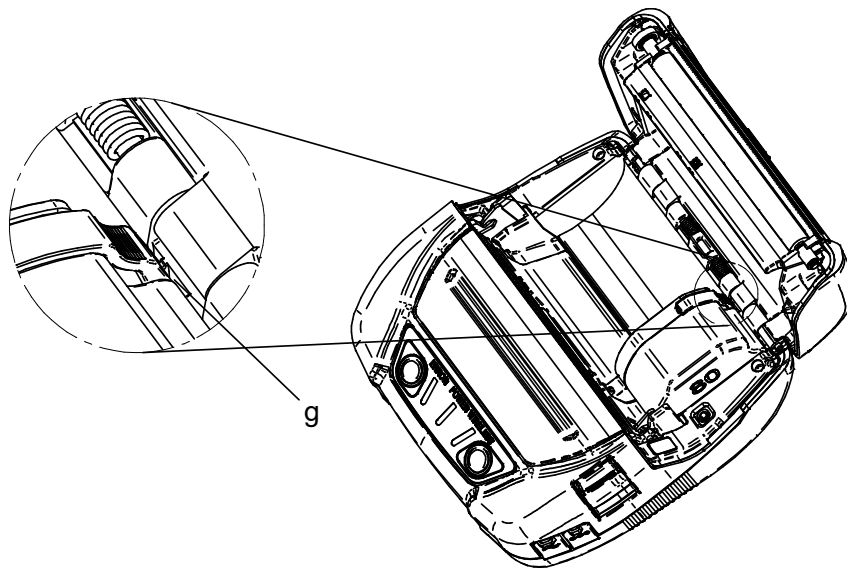

Figure 13-6 Partition Plate Installation (3)
3. Push the partition plate until the tab "g" of the partition plate is locked in the groove "G" of the printer as shown in Figure 13-6.